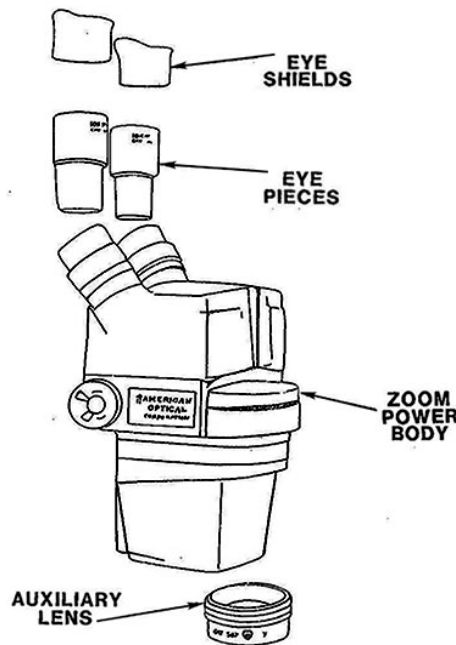

Figure 3-2. Stereo-zoom power body.
2. Set the calibrated zoom knob to the highest power (3X). The zoom knob is located on the right side or the top of the zoom body depending on the model of microscope (fig. 3-2).